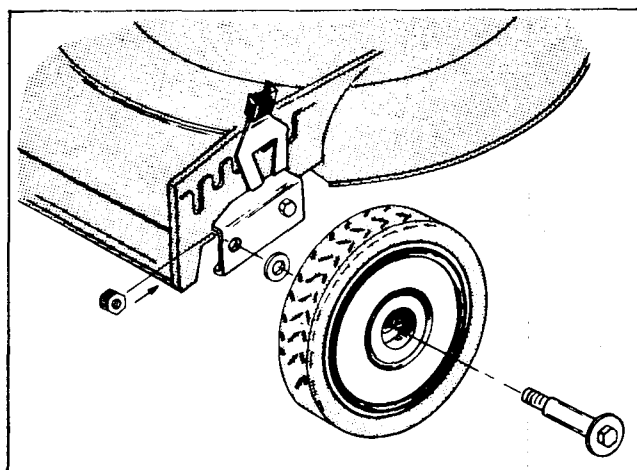

Figure 83
14. See Figure 83. Remove the large shoulder bolt, thin washer and locknut from the left FRONT wheel of mower. (They will not be reused as long as you use the dethatcher. Save these parts for future use.)